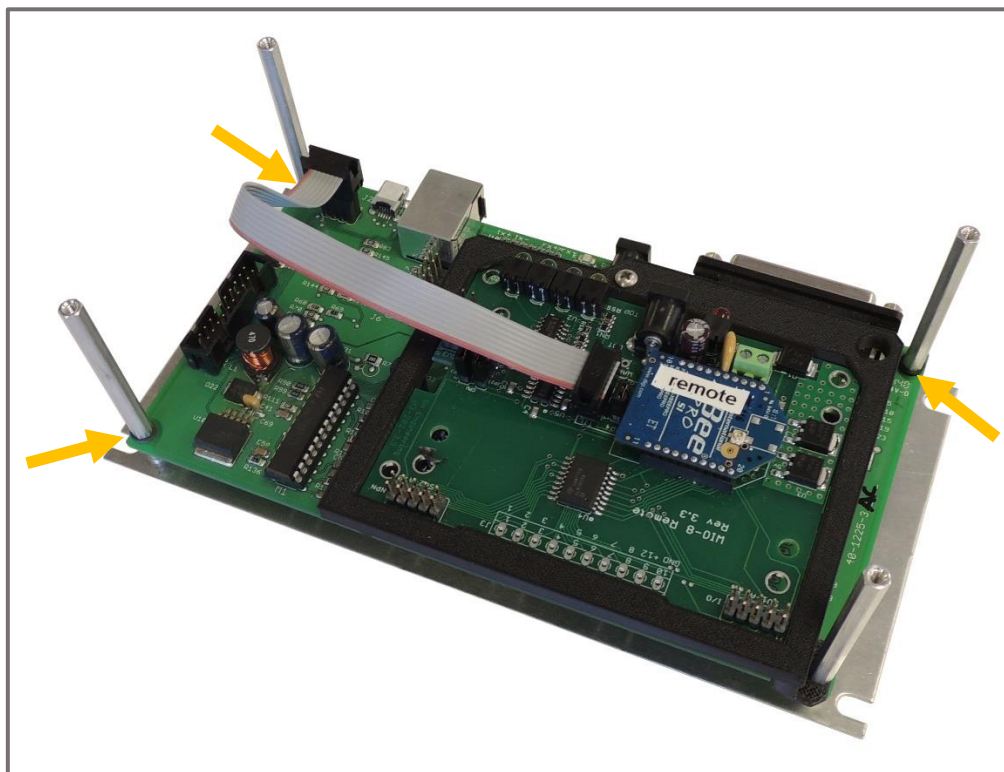

Fig. 18 Hex standoffs installed.
Step 6: Replace the pan head screws holding the driver board onto the aluminum mounting plate with the 2-inch hex standoffs. Place washers between the hex standoffs indicated by the arrows and the driver board as shown in Figure 18.